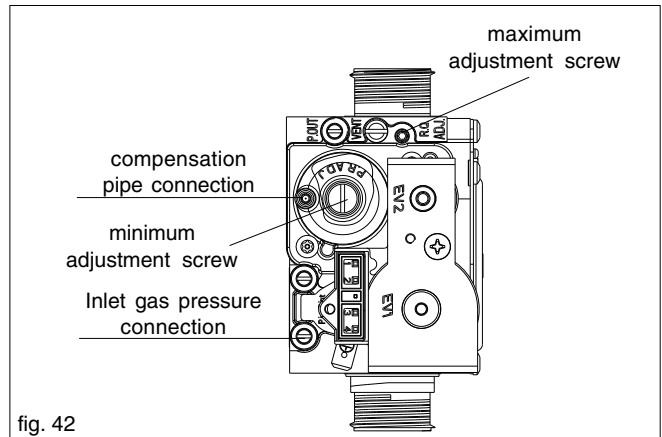

fig. 42
- using a 2.5mm Allen key, very slowly turn the maximum adjustment screw (see fig. 42) – clockwise to decrease, counter clockwise to increase – until the correct value is displayed on the CO₂ analyser (allow time for the analyser to stabilise).
- locate the minimum adjustment screw (fig. 42), using a suitable screwdriver remove the protection plug
- using a 4mm Allen key, very slowly turn the minimum adjustment screw (see fig. 42 - clockwise to increase, counter clockwise to decrease - until the correct value is displayed on the CO₂ analyser (allow time for the analyser to stabilise).